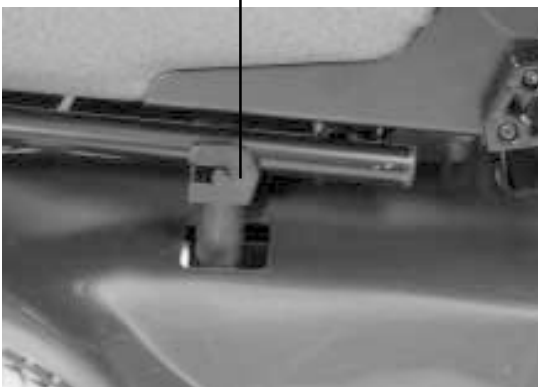

Figure 9. Rear Towers
1. Set the seat on the rear seat towers. See figure 9.